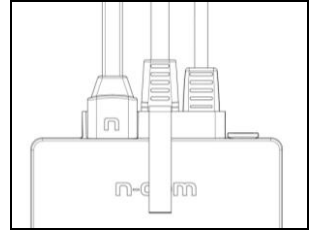

Fig. 30
- Gently position the connector in its seat until it is all the way in (Fig. 30).